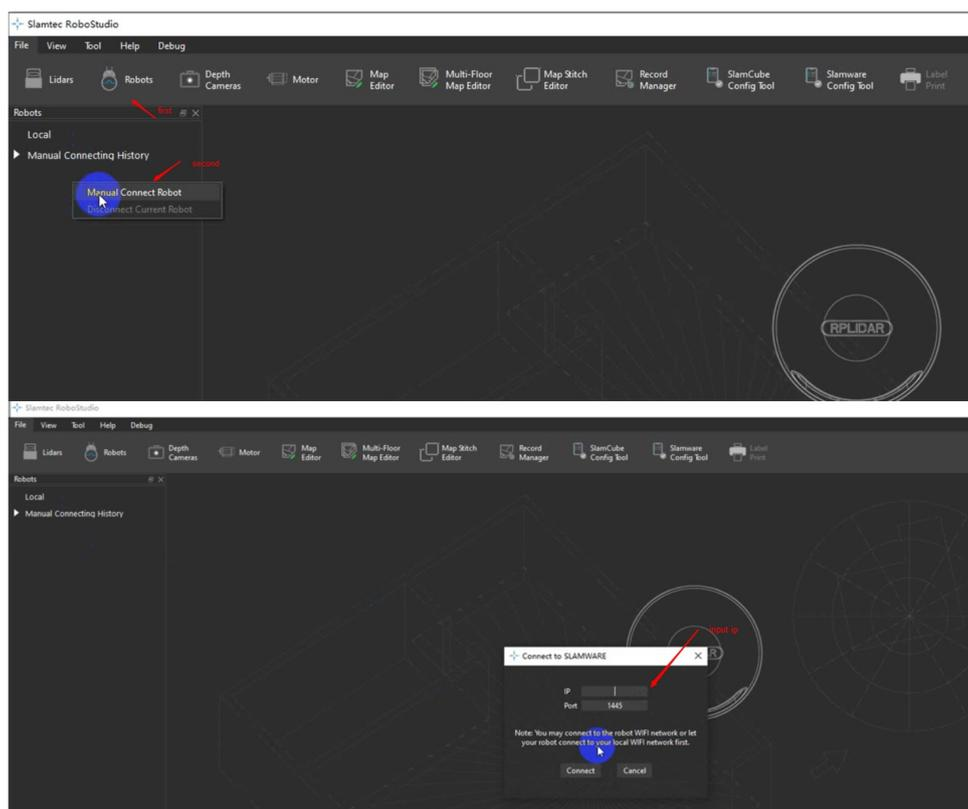

Figure 4.1: Connect to SLAMKit Using Robostudio
4. As shown in figure 4.1, users can follow the operation steps to connect to SLAMKit. (Attention: in the second step, "Manual Connect Robot" is appeared by right-clicking.) And the IP address is 192.168.11.1 in WiFi-AP and ethernet connection. Instead, the local network IP address of IPC can be used in WiFi-station mode.